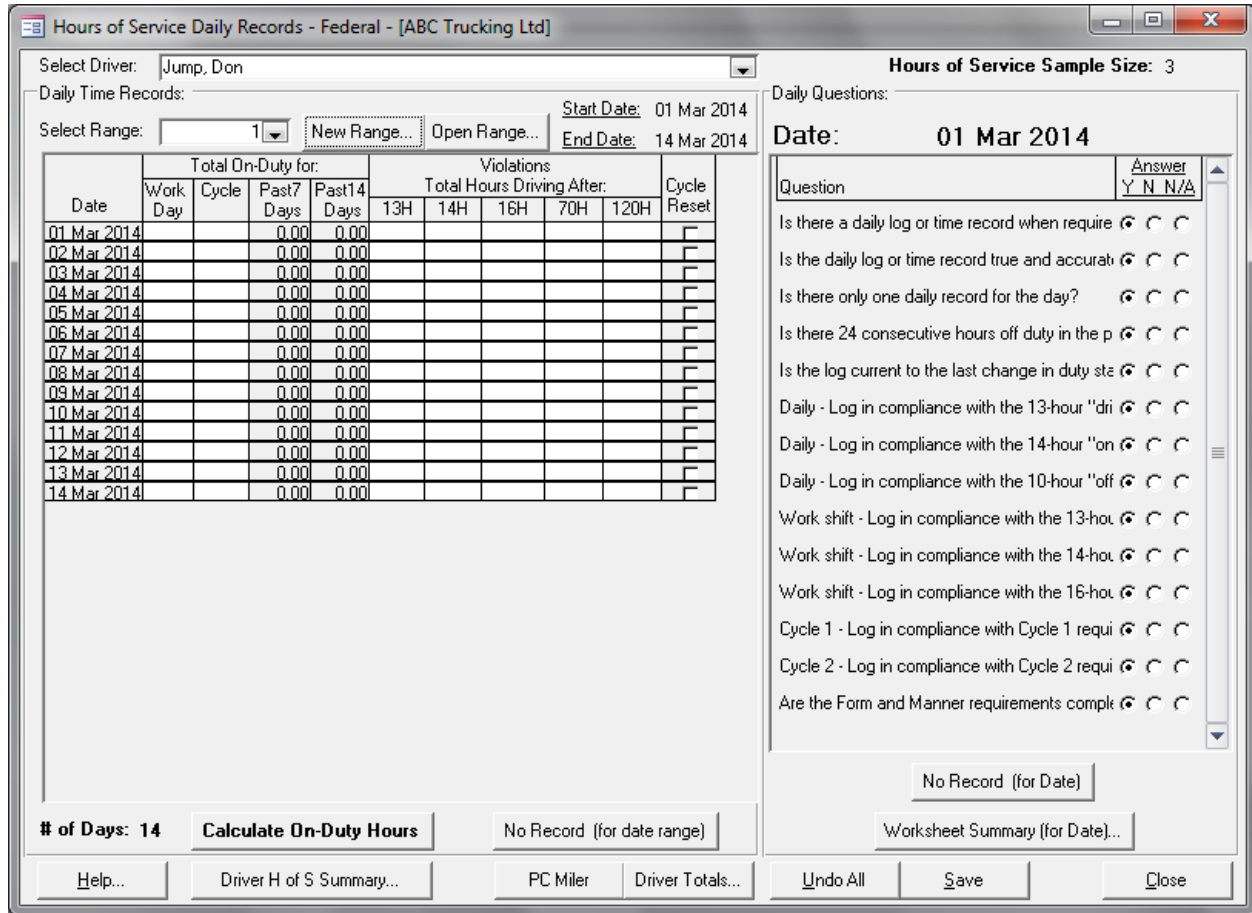

Figure 3: Hours of Service Daily Records Screen
- On this screen (Figure 3), you will enter the number of on-duty hours from the driver’s daily log for each day in the *Daily Time Records* part of the screen. The program will keep a running total of the hours accumulated in the past 7 days and 14 days.